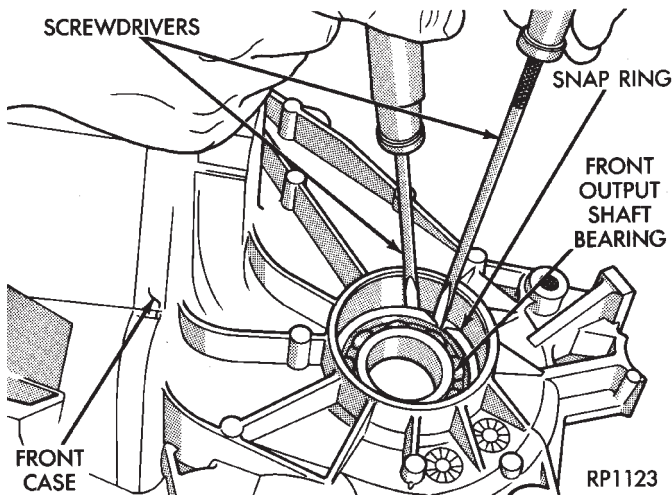
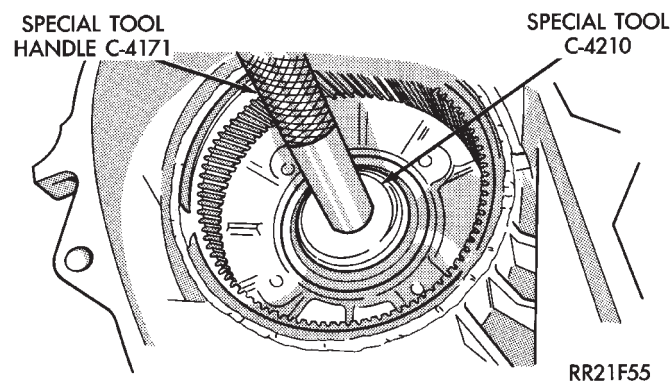

Fig. 29 Removing/Installing Front Output Shaft Bearing Snap Ring
Fig. 31 Removing Input Gear Bearing
(1) Lubricate components with automatic transmission fluid (or petroleum jelly where indicated) during assembly.
(2) Remove front output shaft seal from front case.
(3) Remove front output shaft bearing snap ring (Fig. 29).
(5) Secure front output shaft bearing in front case with new snap ring (Fig. 29).
(6) Install new front output shaft seal in front case.
(7) Press input gear bearing from the front case with Tool Handle C-4171 and Installer Tool C-4210 (Fig. 31). Then turn front case over.